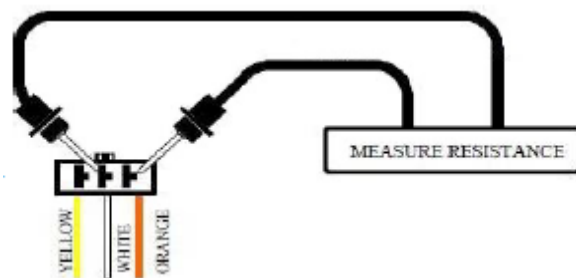
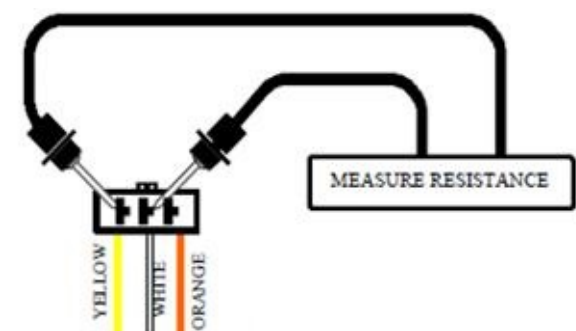

Figure 26. Connector 14
Figure 27. Connector 14
13. Insert the multimeter probes into the throttle pot connector (14) at the orange wire and the white wire. **See figure 26.** Note the resistance reading. Insert the multimeter probes into the throttle pot connector (14) at the yellow wire and the white wire. **See figure 27.** Note the resistance reading.
14. Check the orange, gray, and yellow wires on the main harness (7) for continuity.